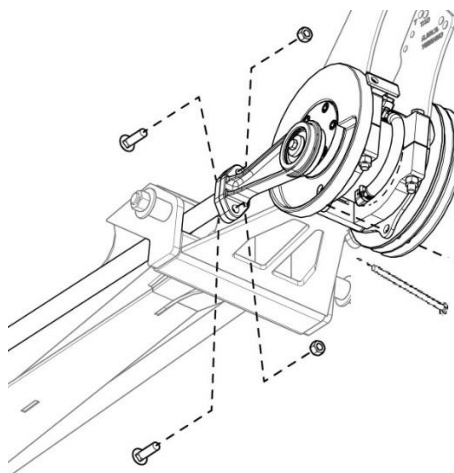

Figure 109
2. Run a long bolt or rod through the alignment hole of the two flywheels to keep them aligned with each other. Figure 109
6. Remove the bolts from the rear of the tie rods. Adjust the tie rods until the bell cranks are parallel. Figure 109
1. To remove the bell crank assemblies, install a bolt in the rear bearing drive for timing. Figure 109 in timing section.